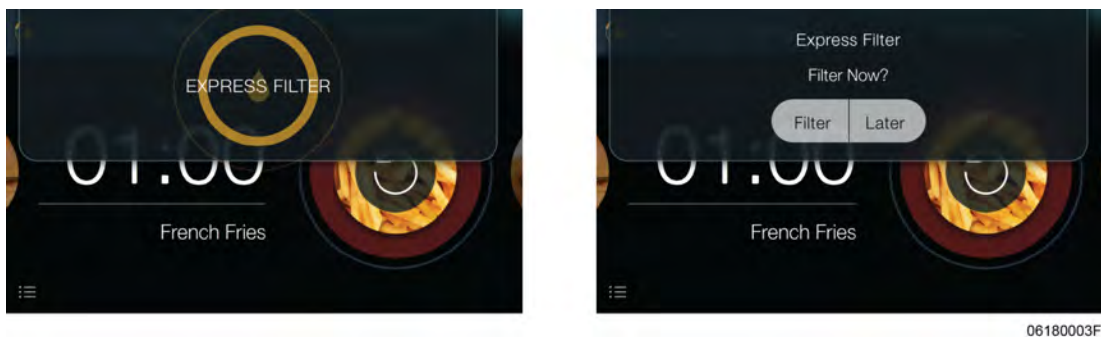

Figure 4-13
The F5 touchscreen control lets team members know approximately how many cooks remain before the next express filter both from the oil filter percentage and also from the yellow filter status ring. The filter percentage starts at 100% for each vat, and as product is cooked, this percentage decreases. When the filter percentage reaches 0% in any vat, an express filter prompt appears indicating that it is time to filter, see the left image in Figure 4-13 , page 27. When performed, the F5 completes the entire express filter process, including bringing the oil back to set temperature, in 3 minutes or less with a properly maintained filter pan. As one vat is being filtered, the other vats can still be used for cooking. The express filter process is described in the following steps:
- 1) Tap express filter then select **Filter** to filter now, or select **Later** to delay filtration and continue cooking, right image Figure 4-13 , page 27.